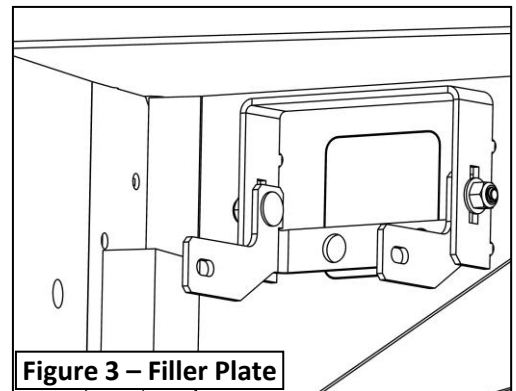

Figure 3 – Filler Plate
NOTE: The bracket orientation will differ depending on installation as Filler Plate, or as Light Mount Bracket. See Figures 3 and 4.
- a. If you are installing the Filler Plate without LED's, simply orient the bracket as shown in **Figure 3**, with the square portion filling the square cutout in the bumper.